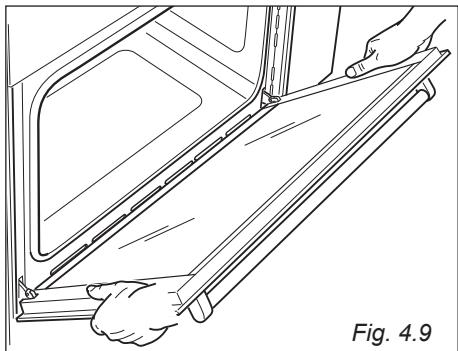

Fig. 4.9
- Hold the door as shown in fig. 4.9.